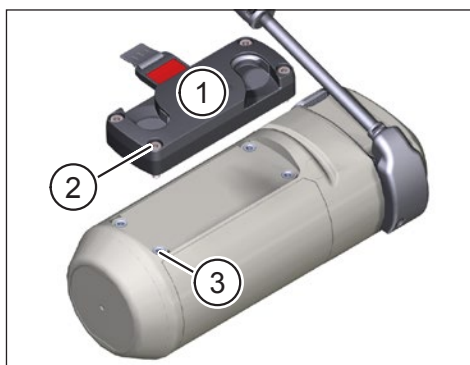

Fig. 3: Fasten FIDLOCK® Force Connector to Range Extender
- Fasten the FIDLOCK® Force Connector (Pos. 1 in Fig. 3) in the threads (Pos. 3 in Fig. 3) in the Range Extender using the four M4 × 16 cylinder screws supplied (Pos. 2 in Fig. 3).